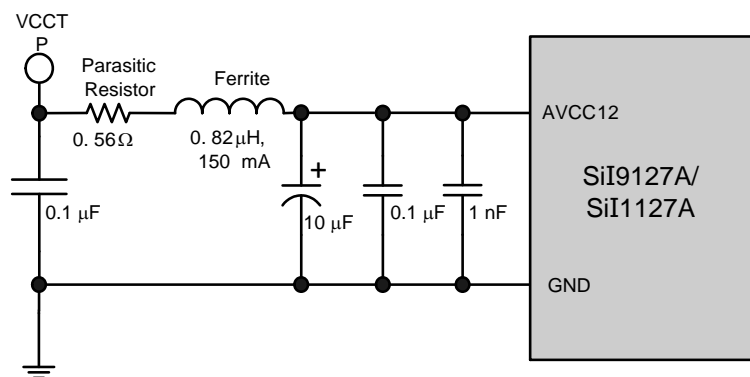

Figure 4.1. Test Point VCCTP for VCC Noise Tolerance Specification
- The supply voltage noise is measured at test point VCCTP in Figure 4.1. The ferrite bead provides filtering of power supply noise. The figure is representative and applies to other VCC pins as well.